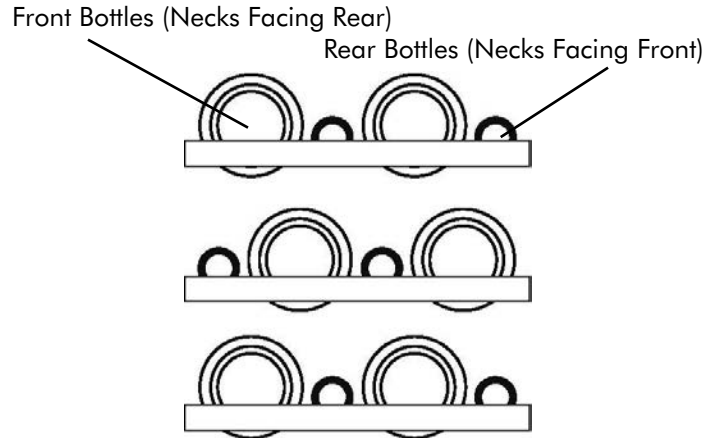

Figure 5
The six (6) roll-out shelves each hold four (4) bottles. See Figure 5 for typical wine bottle spacing. Tall bottles should not be loaded on the bottom rack because they may prevent the door from closing.